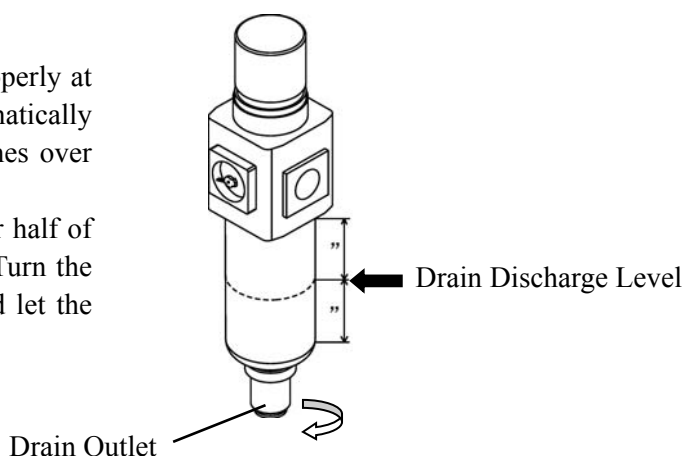

Figure-2
2. Regulator/Mist Separator: Figure-2